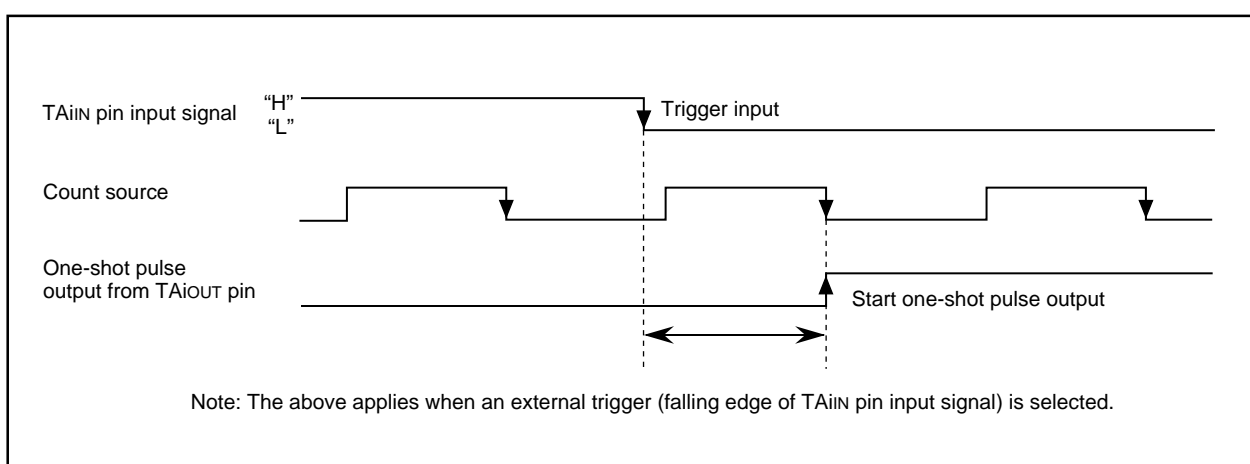

Figure1.3.4. One-shot timer delay
3. The output from the one-shot timer synchronizes with the count source generated internally. Therefore, when an external trigger has been selected, a delay of one cycle of the maximum count source occurs between the trigger input to the TAIIN pin and the one-shot timer output (Figure 1.3.4).